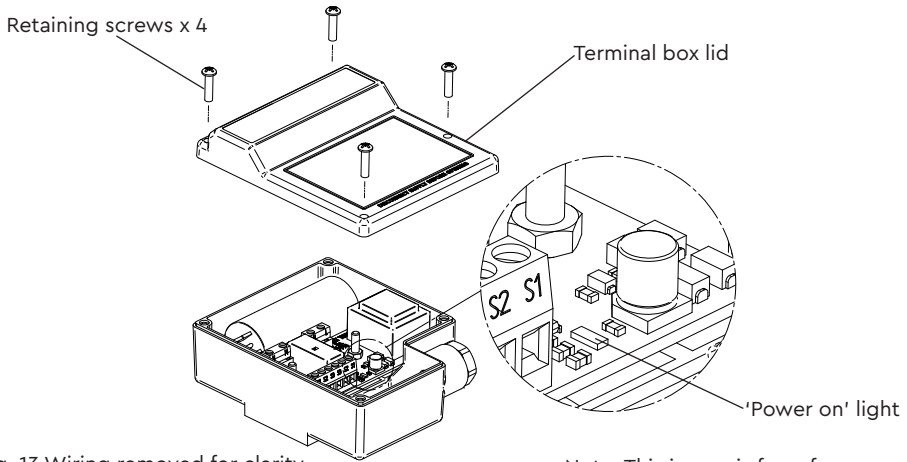

Fig. 13 Wiring removed for clarity
- Remove the four screws retaining the terminal box lid (Fig. 13).